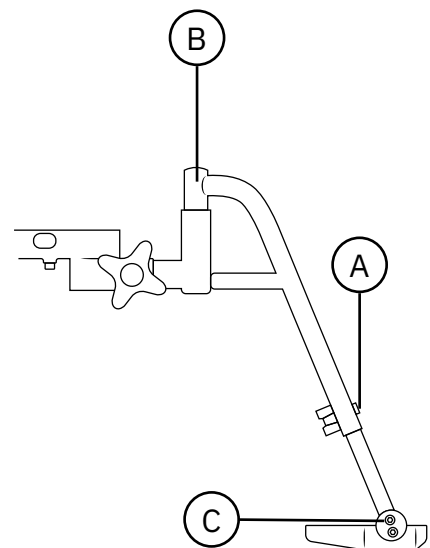

Figure 5.56. Cross leg support.
Cross leg supports are removable without tools and can be rotated sideways. Centre leg supports are adjustable in height (A), angle of leg support (B) and angle of footplate (C), see Figure 5.56.